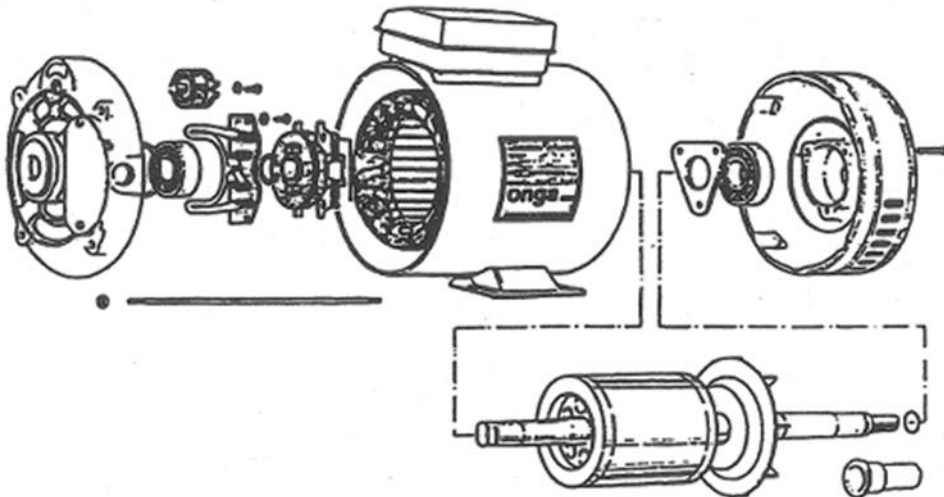

Figure 1 - Typical split phase induction motor
4. An exploded view of a typical single phase split phase induction motor is shown in Figure 1.